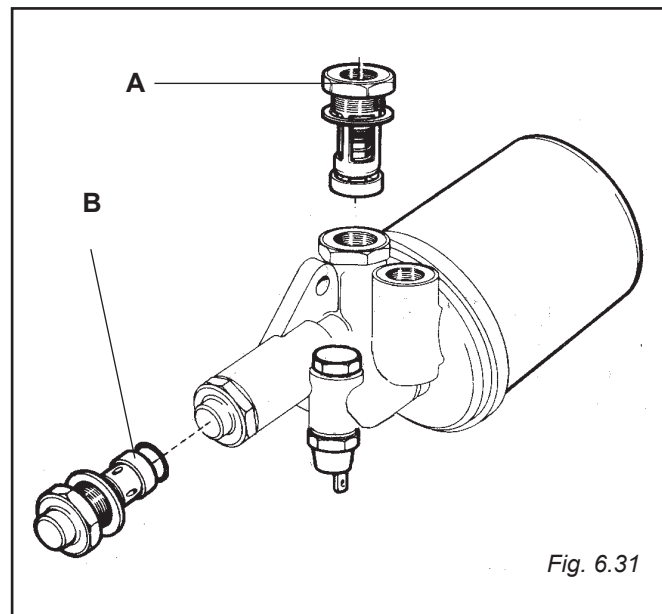

Fig. 6.31
6.20 Thermostatic valve and oil pressure valve (Fig. 6.31)